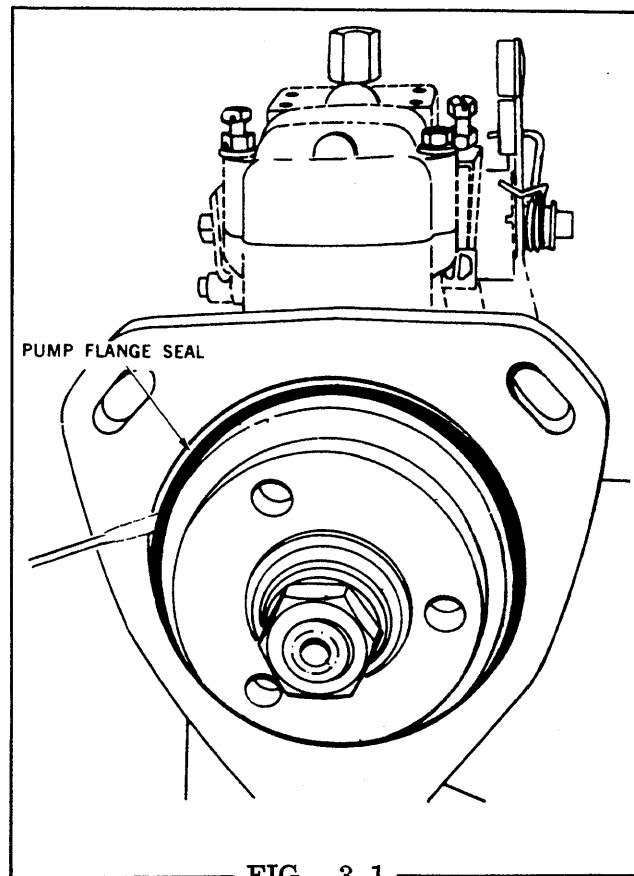

FIG. 3.1
STEP 1 Remove the pump flange seal from the housing (Fig. 3.1).